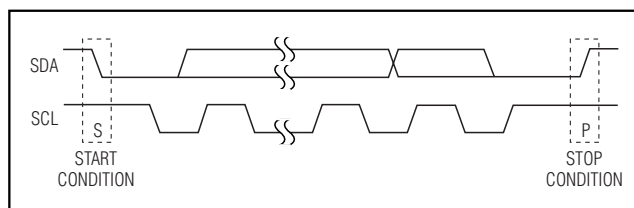

Figure 2. START and STOP Conditions
Each transmission consists of a START condition sent by a master, followed by the MAX7321's 7-bit slave address plus R/W bit, and then optionally 1 or more data bytes, and finally a STOP condition (Figure 2).
Both SCL and SDA remain high when the interface is not busy. A master signals the beginning of a transmission with a START (S) condition by transitioning SDA from high to low while SCL is high. When the master has finished communicating with the slave, the master issues a STOP (P) condition by transitioning SDA from low to high while SCL is high. The bus is then free for another transmission (Figure 2).